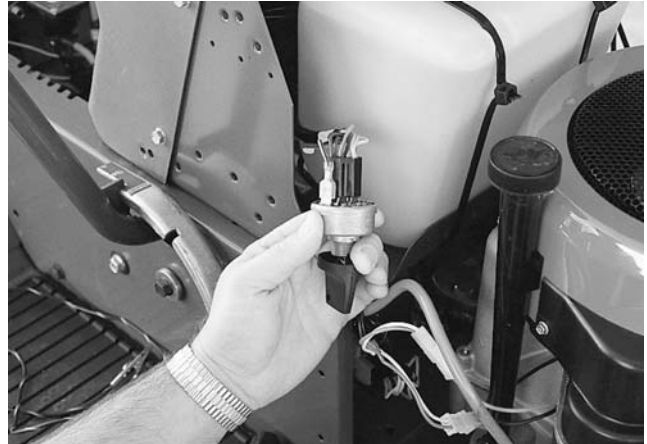

Figure 3-30.
13. Check the ignition switch to be certain the wire harness connector is completely secured to the ignition switch terminals. Wires on the harness plug at the ignition switch should be installed as illustrated. See Figure 3-30.